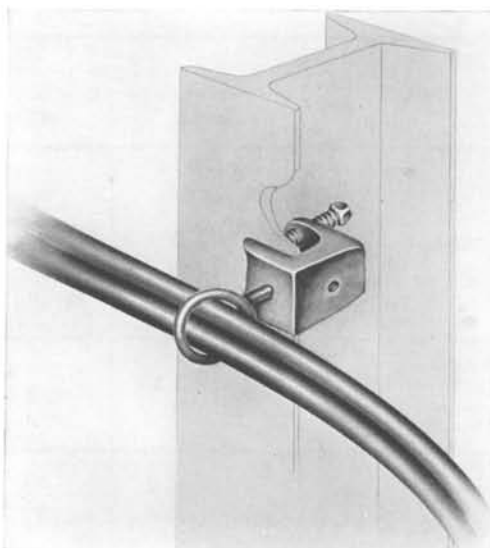

FIG. 21—NO. 509 UNIVERSAL INSULATOR SUPPORT
7.07 The No. 509 Universal Insulator Support is shown in Fig. 21.